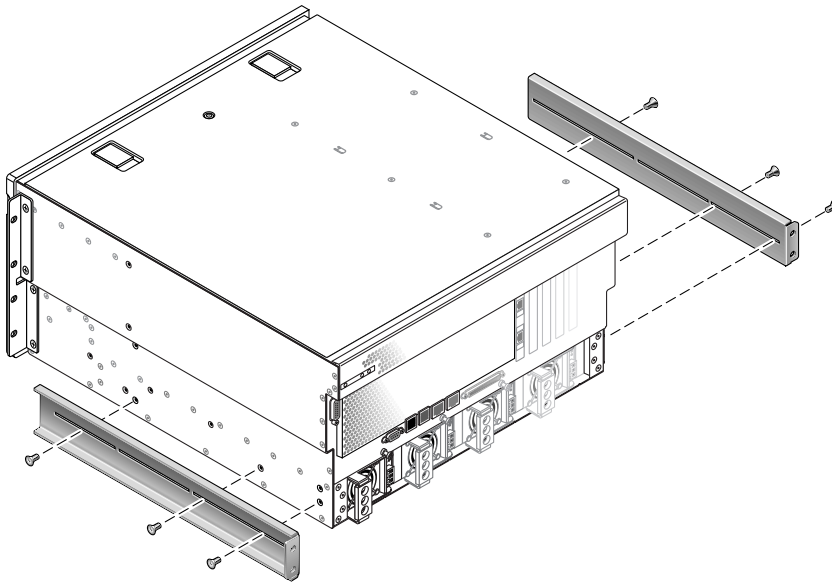

FIGURE 3-19 Attaching the Rear Mount Support Brackets
5. Install the rear mount support brackets at the rear of the server, extending the rear mount support brackets to the measured depth of the rack (FIGURE 3-19).